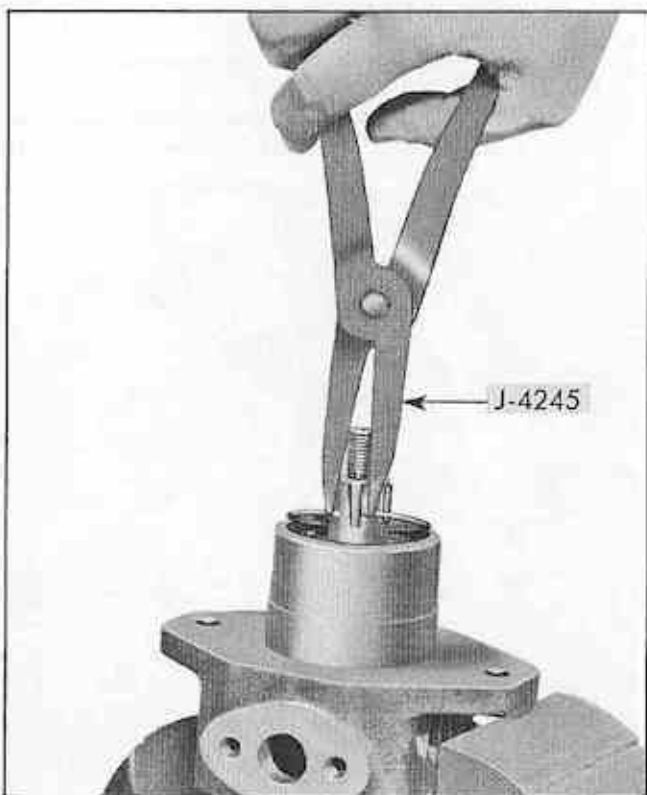

Fig. 101 Removing Bearing Retaining Rings
13. Remove shaft bearing retainer snap ring from front hub of pump body using tool J-4245 (Fig. 101).